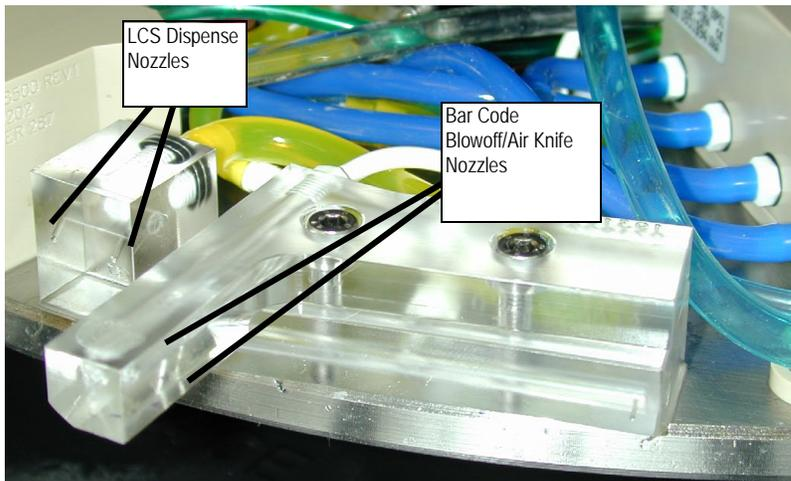

Figure 4. LCS Dispense Nozzles Air Knife and Nozzles
Directly after the volume adjust station, LCS is emitted by two nozzles at the LCS station shown in Figure 4.
- As the air knife nozzle is positioned over the slide, air jets on the bottom of the arm (shown in Figure 4) sweep liquid from the bar code label.